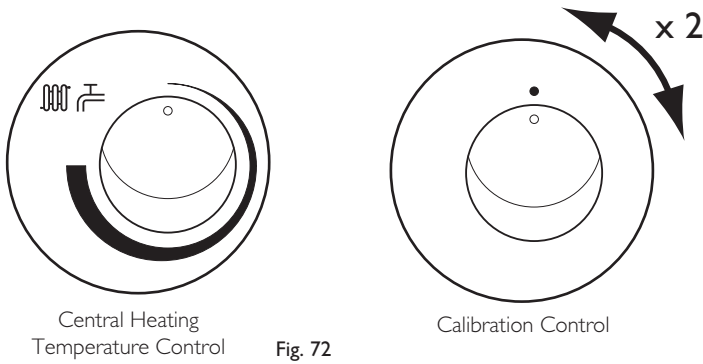

Fig. 72
3. Turn both control knobs fully anticlockwise, then quickly turn the right hand knob 1/4 clockwise twice and back fully anticlockwise (Fig. 72).